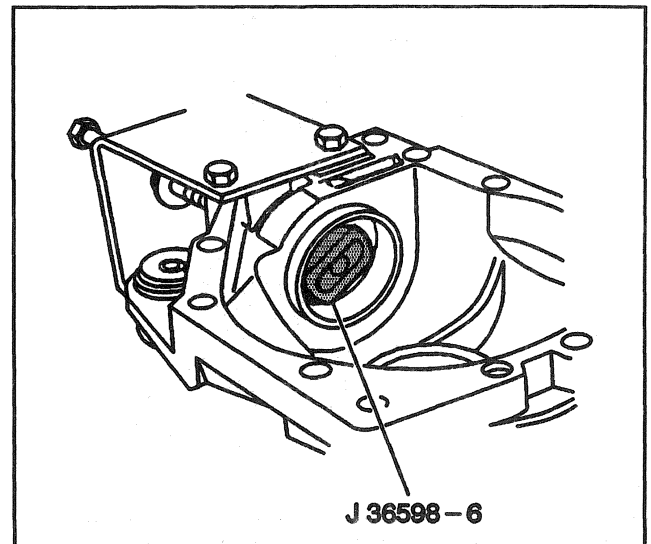

Figure 20—Removing the Inner Bearing Cap
32. Bearing cup. Use J 36598-6 (Figure 20).